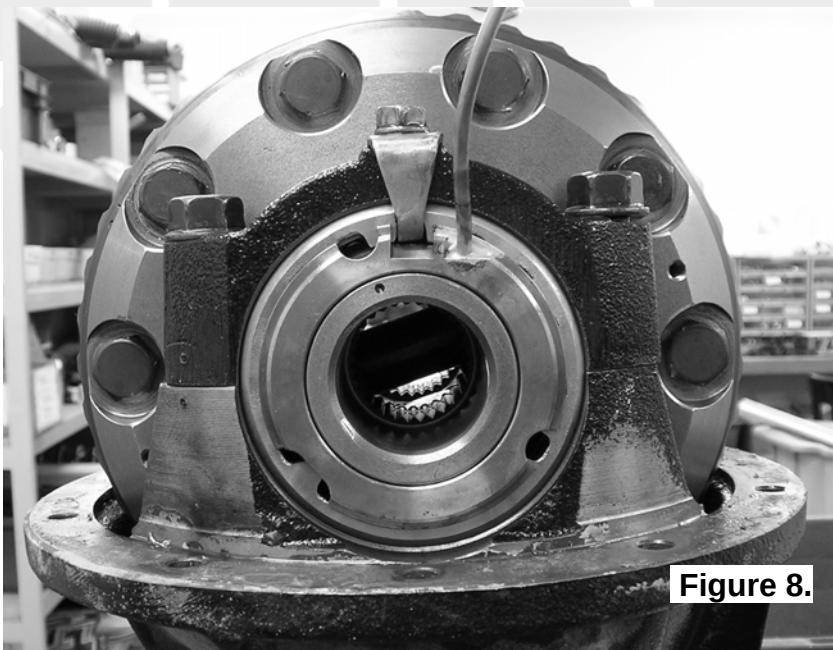

Figure 8.
- ☐ Rotate the seal housing until the square cutout lines up with the locking tab position at the center of the bearing cap, and then assemble the locking tab. (Fig.8.)